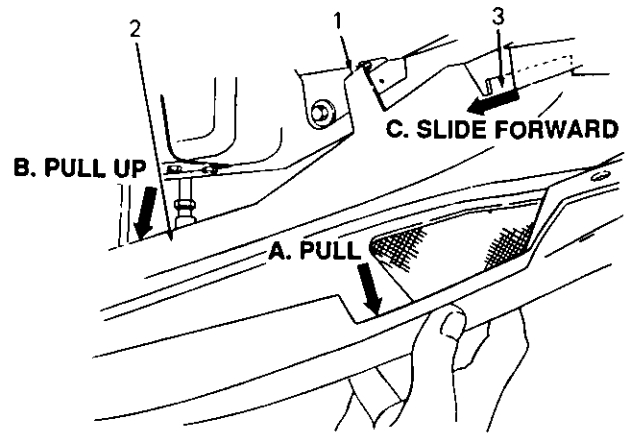

Figure 17
To remove lock tab, (A) gently pull front of side panel towards you and (B) pull up. Then (C) slide side panel forward to disengage dash panel lock. (Refer to Figure 17.)